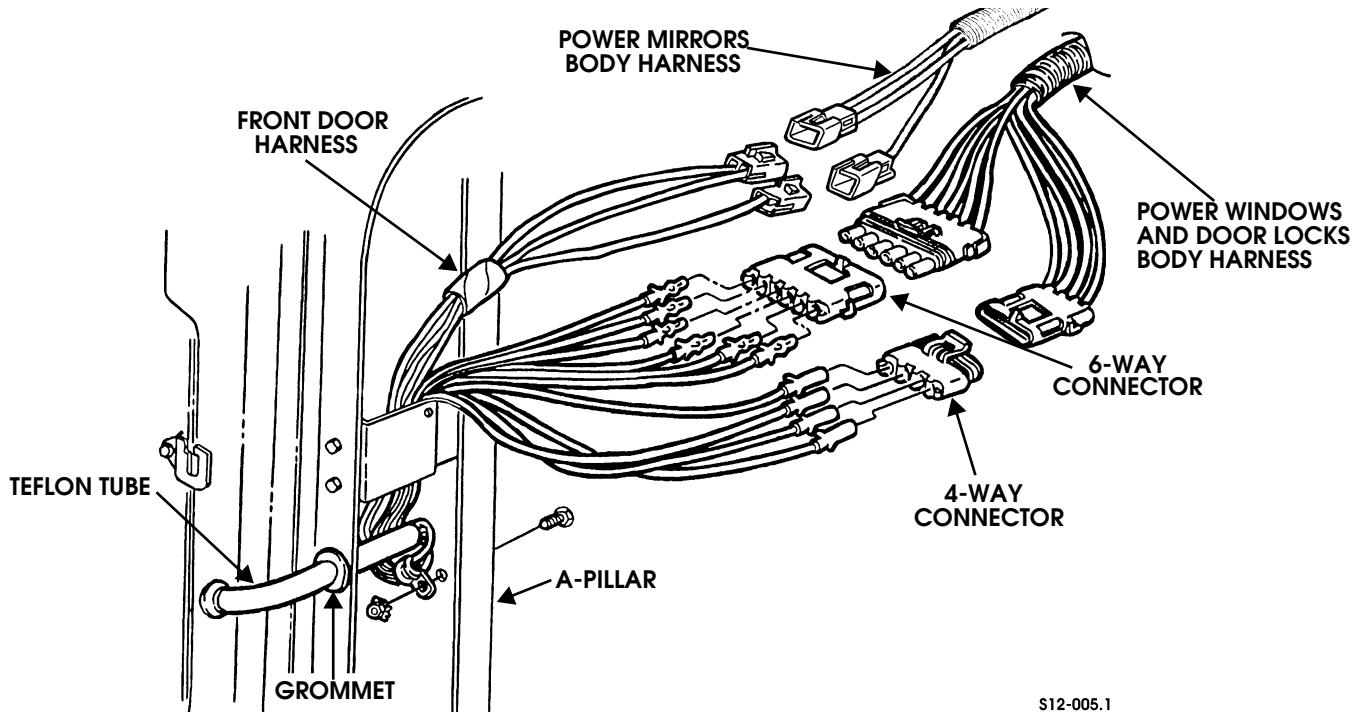

Figure 2-119: Power Windows and Door Locks Connections
3. Route harness through A-pillar rubber grommet (Figure 2-119).
8. Connect two harness connectors to power mirrors door jumper harness connectors (Figure 2-119).